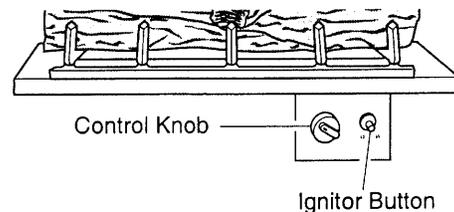

Figure 42 - Control Knob and Ignitor Button Location
3. Turn control knob clockwise  to the OFF position (see Figure 42).
4. Wait five (5) minutes to clear out any gas. Then smell for gas, including near the floor. If you smell gas, **STOP!** Follow "B" in the safety information, column 2. If you don't smell gas, go to the next step.
5. Slightly depress and turn control knob counterclockwise  to the PILOT position. Press in control knob for five (5) seconds (see Figure 42).